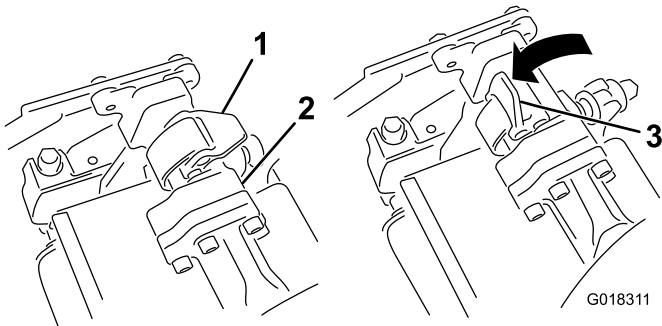
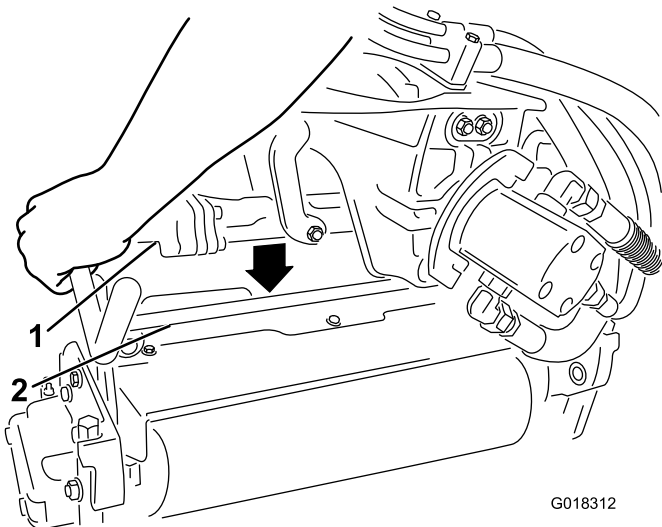

Figure 1
Figure 2
2. With the latches on the suspension-arm bar in the Open position (Figure 1), push the suspension arm down so that it fits over the bar across the top of the spiker unit (Figure 2).